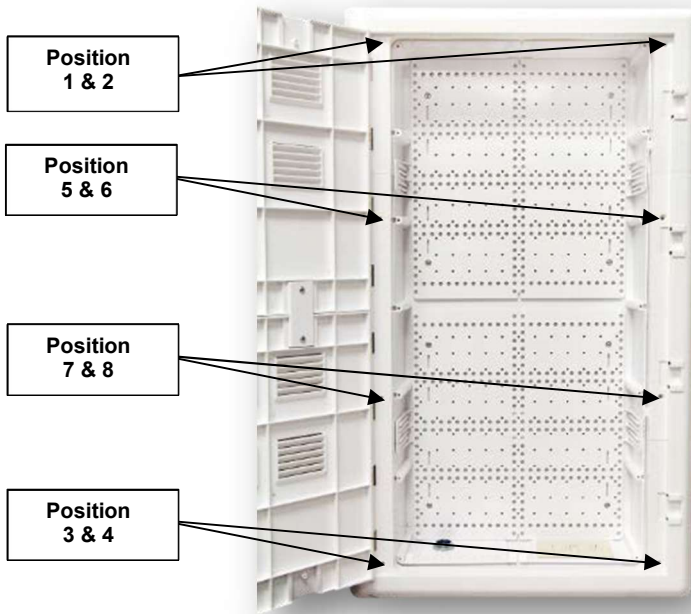

Figure 5
8. Install remaining pan head screws in the tabs in the remaining corners and in the middle of sides following the order shown in Figure 5 below. Tighten until screw is just snug adjusting the reveal around the closed door as you go. Once cover is properly positioned with reveal consistent throughout, carefully tighten screws, following the same order, being careful not to over tighten.